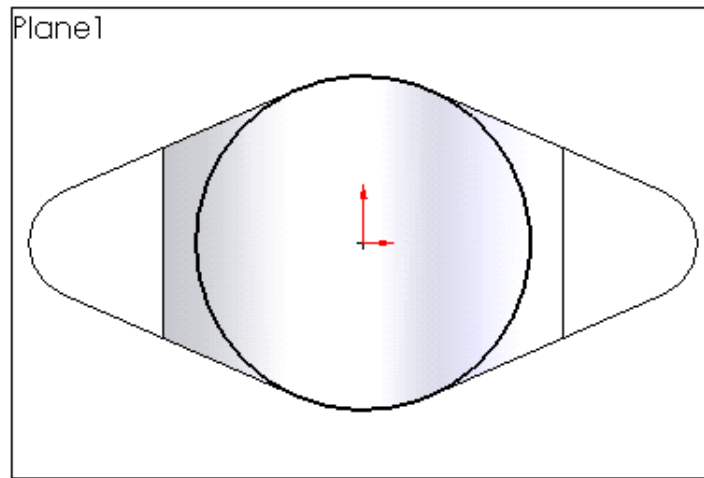

Figure 5-96 Sketch created on the newly created plane
- Create the sketch on the newly created plane and extrude it to a selected surface, refer to Figures 5-96 and 5-97.
4. Draw the sketch of the circle and apply the required relations to the sketch as shown in Figure 5-96.